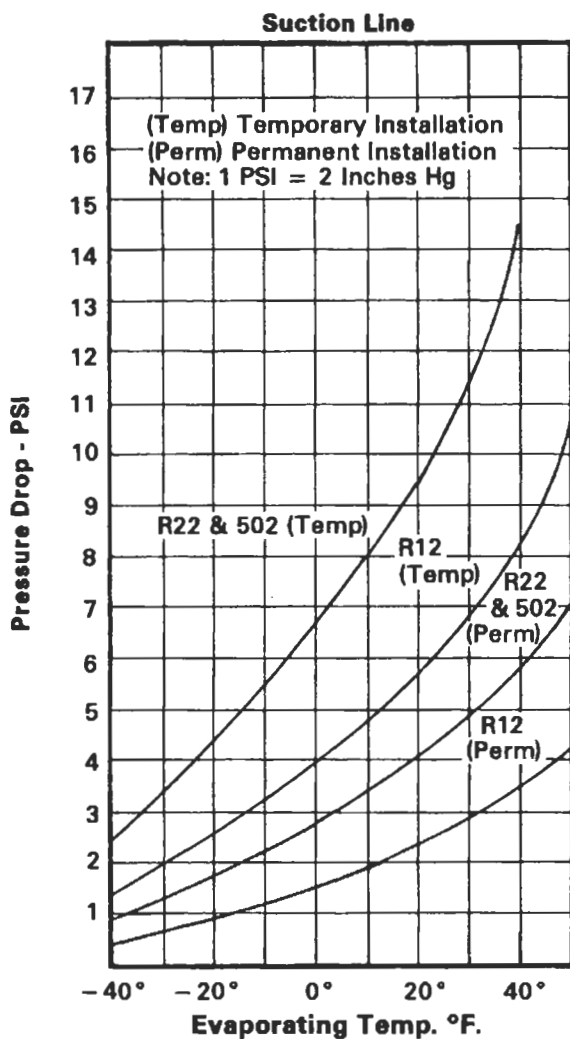
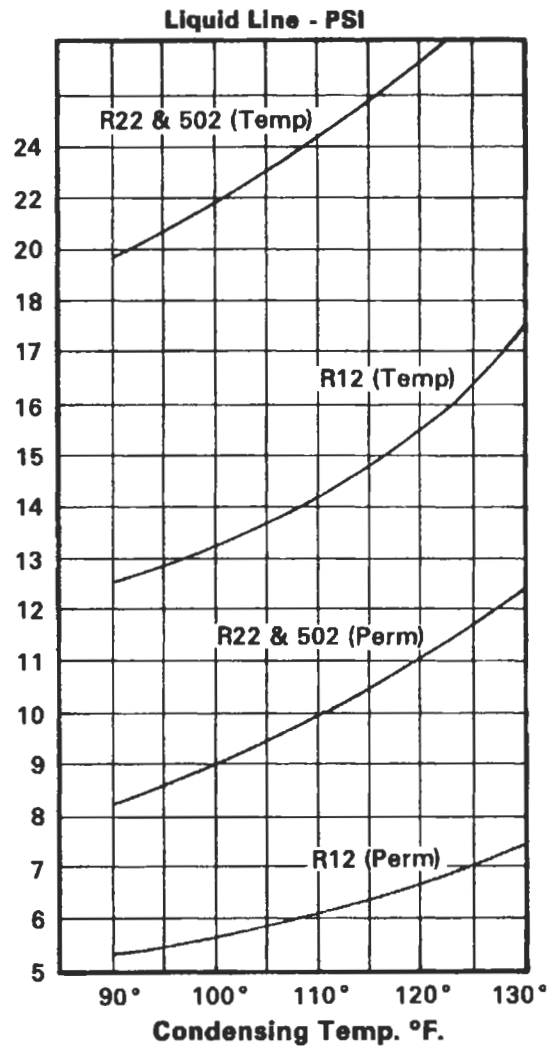

FIGURE 1
FIGURE 2
The size of the filter-driers (see Figures 1 and 2) used to clean up the system should be such that the maximum pressure drop under normal operating conditions is within the limits shown by the attached curves. The selection chart shown may be used as a general guide to the selection of an adequate filter-drier. The connections on the filter-drier should normally be the same size as the connecting lines.
7. Start the compressor and put the system in operation. As the contaminants in the system are filtered out, the pressure drop across the filter-drier will increase. Observe the pressure differential across the filter-driers for a minimum of four hours, preferably by means of one gauge and a manifold to eliminate gauge error. If the pressure drop exceeds the maximum limits shown on the curves on Figure 1 and Figure 2, replace the filter-drier and restart the system.